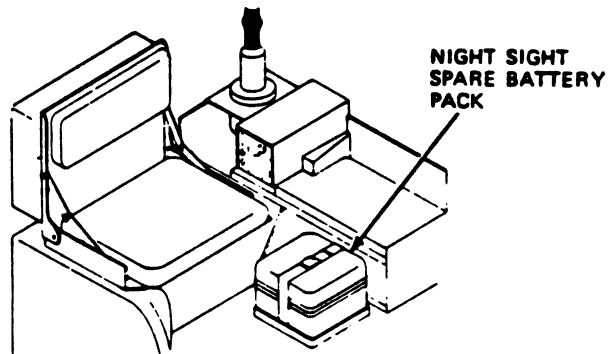

Fig 2-34. Storage of night sight spare battery pack.
Step 7. Stow and secure the night sight spare battery pack at the left rear of the jeep (fig 2-34).